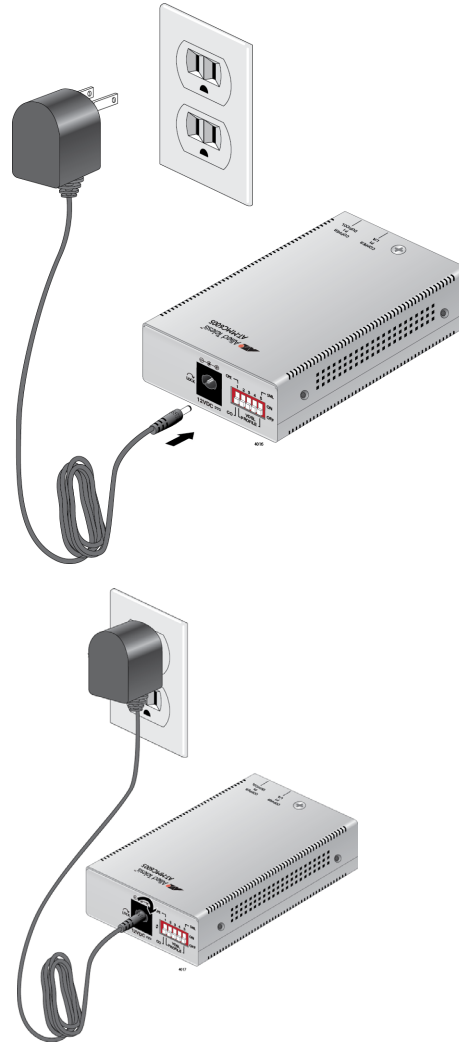

Figure 15. Connecting 12VDC Powered Unit
1. Plug the DC of the external power adapter to the power receptacle connector labeled 12VDC on the back panel of the unit and turn the cord clockwise one-quarter turn to lock, as shown in Figure 15 on page 42.